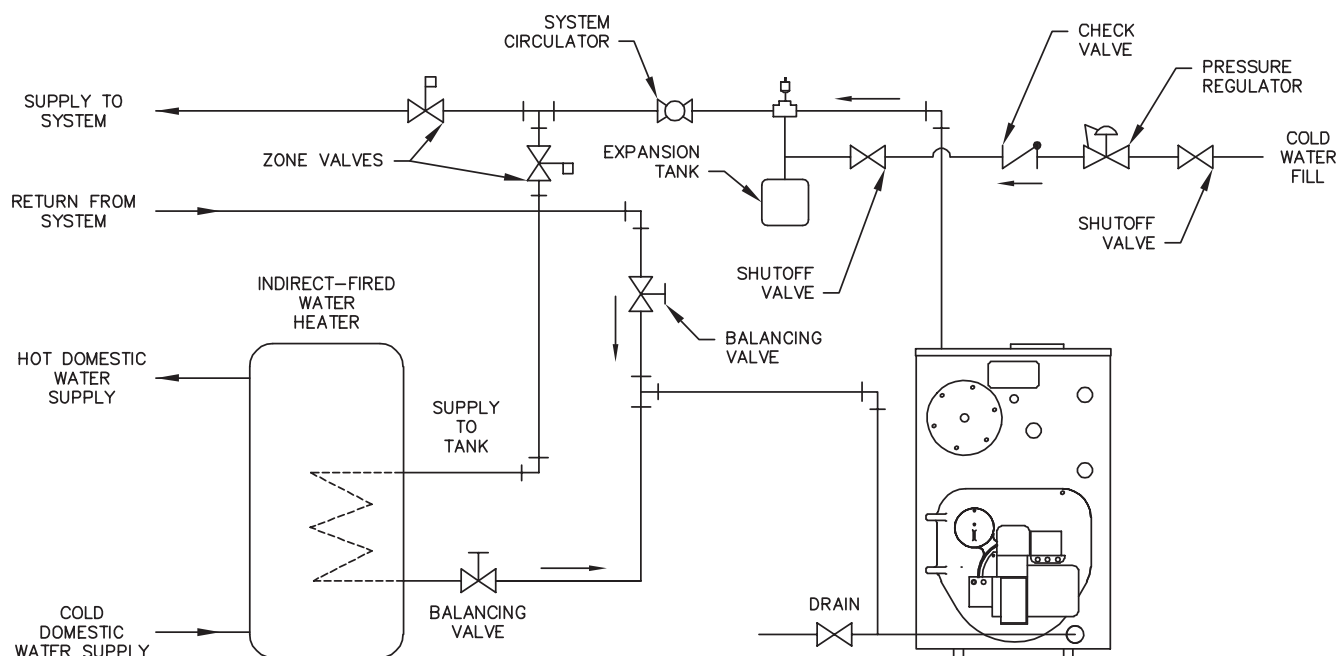

Figure 3.4
1. If a Partner indirect fired water heater or other, refer to Figure 3.4 for typical piping. Also refer to additional instructions supplied with the Partner.